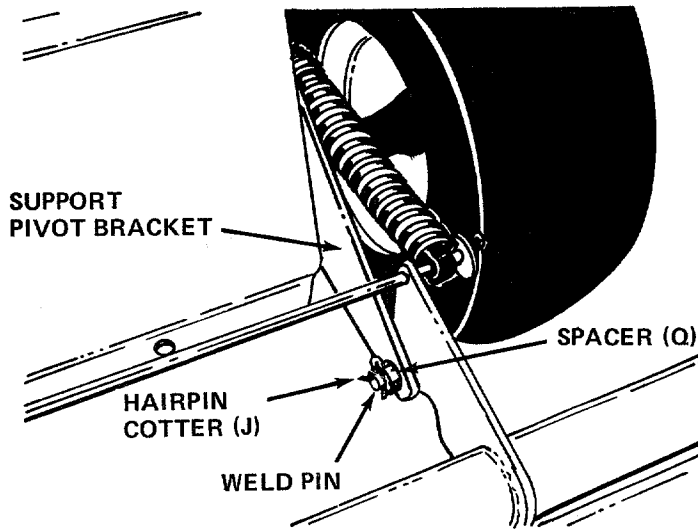

FIGURE 14
22. There are two weld pins on the front of the tiller. Push the tiller forward, then to the left so the weld pins go through the bottom hole in the pivot support brackets. See figures 14 and 15.
23. Secure the weld pin on the right hand side of tiller using spacer (Q) and hairpin cotter (J). See figure 14.